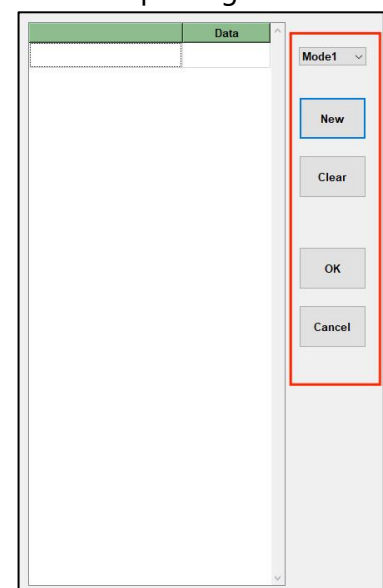

Figure 6-50: Setup item parameter
Double click the data column (NULL) of the item0, a pop-up window will show up as Figure 6-50: